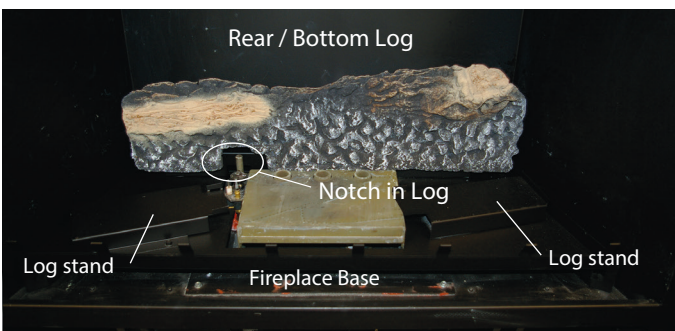
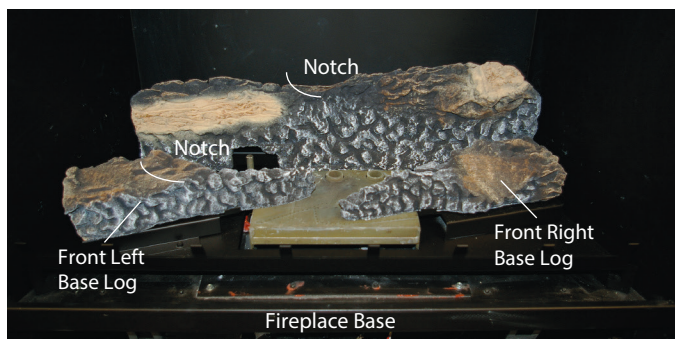
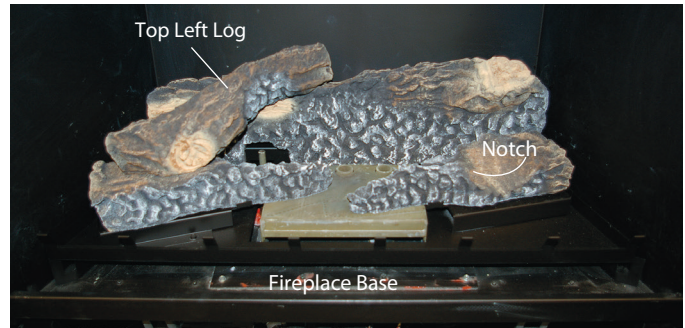

Figure 28b. Bottom/Rear log placement.
Figure 28c. Front base logs placement.
Figure 28d. Top Left log placement.
Step 2. Install Bottom Rear log as shown in Figure 28b.
Step 3. Install Both front base logs, (Figure 28c) on the log stands provided. See Figure 28b.
Step 4. Place the top left log as shown in figure 28d. A flat area is provided on the front left log, and a notch in the Rear bottom log, as shown in figure 28c. Install the glass door. If the flame does not appear satisfactory, double-check the air inlet and exhaust outlet pipe to ensure that they are unobstructed.